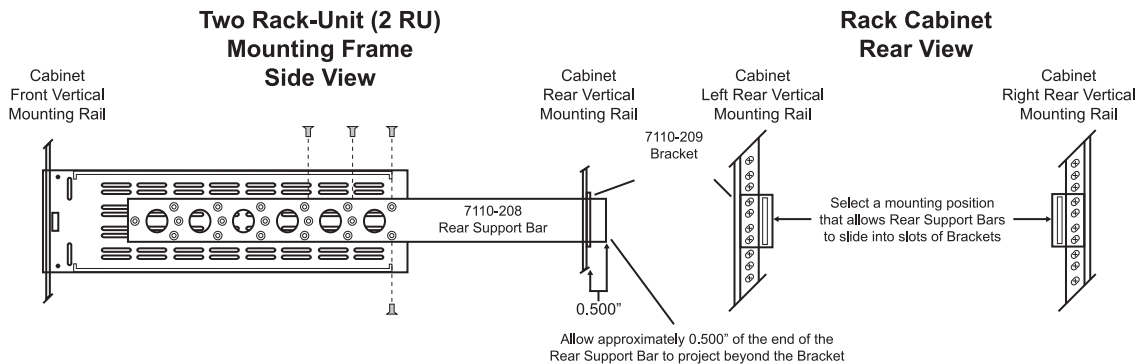

Figure 2.1 Rear Support Bars and Brackets Diagram
The rear support bars can be attached to the openGear frame in six possible positions; refer to **Figure 2.1**.
2. Install a Rear Support Bars to each side of the Ross Frame using the supplied screws in the four locations as shown in **Figure 2.1**.